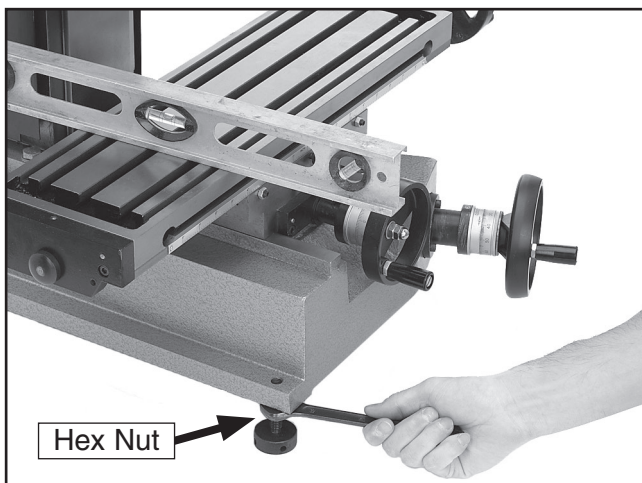

Figure 7. Leveling the mill/drill.
2. Adjust the hex nut(s), as shown in **Figure 7**, until the mill/drill is level side-to-side and front-to-back.